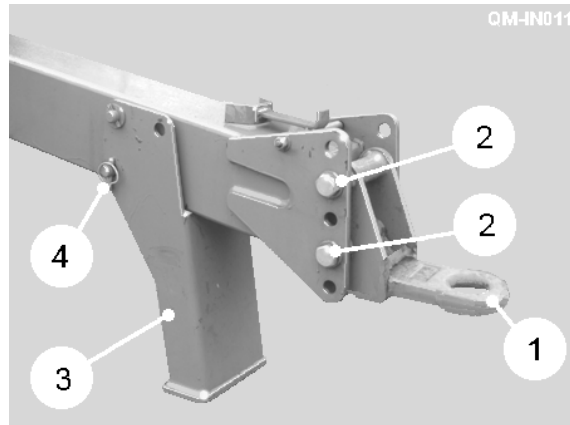

Fig. 1
Raise the harvester on the pick-up hitch. The harvester chassis should be nominally level. If the chassis is in a nose up attitude or extremely nose down, the drawbar eye (item 1, fig. 1) should be adjusted accordingly to compensate. To adjust the eye position, remove the bolts (item 2, fig. 1) and move the eye to the required position. The eye can be turned over to achieve a second range of adjustments. The stand (item 3, fig. 1) is provided so that the machine is held at a suitable height for safe coupling to the tractor. When the machine has been securely attached to the tractor, the stand can be folded back into the working position by removing the pin (item 4, fig. 1), rotating the stand and then re-securing with the pin.